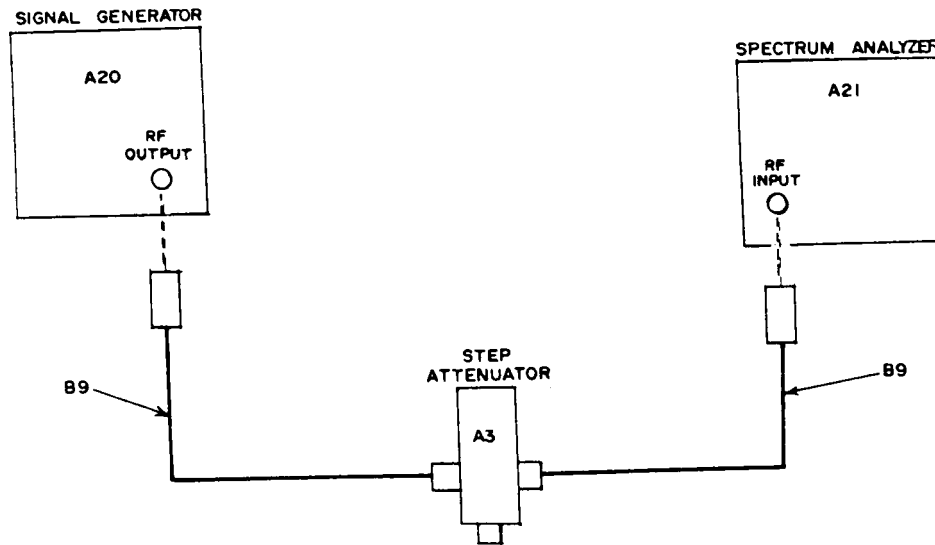

Figure 4. Output level (alternate method).
- (1) Connect signal generator (A20) RF output to power meter (A13).
- (2) Adjust signal generator for 100 MHz and amplitude for 0 dBm indication on power meter.
- (3) Connect equipment as shown in figure 4.
- (4) Set step attenuator (A3) to 80 dB.
- (5) Without adjusting signal generator, establish a reference indication on spectrum analyzer (A21).
- (6) Repeat technique of (1) through (5) above, for power meter reading of +2.5 and -2.5 dBm. Record reference on spectrum analyzer without changing setting on spectrum analyzer.